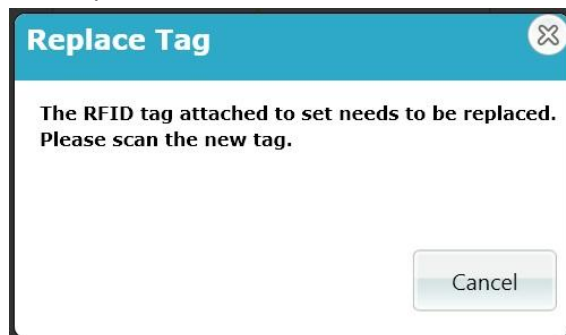

Figure 20
- 4.3. **Replace set tag:** when the set tag has exceeded its usage period (defined by the number of times the set was packed with that tag), the tag should be replaced. The system will show an alert (see figure 20 below) right after the set tag is scanned.